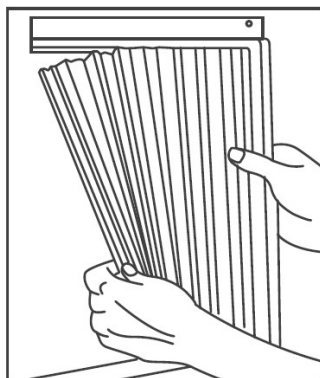

Fig.2
- Gently pull the free end of the accordion panel (See Fig.2). Do this for both panels.